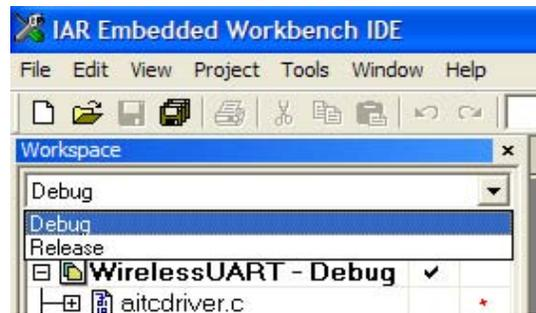

Figure 1-12. IAR Embedded Workbench Work Space Debug and Release Window
- To debug an application select “Debug” at the Work space window as shown in Figure 1-12.